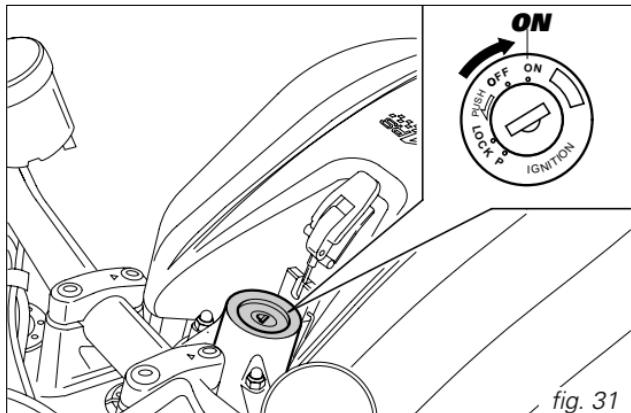

fig. 31
1) Turn the ignition key to **ON** (fig. 31). Check that both the green **N** light and the red light  on the instrument panel come on.